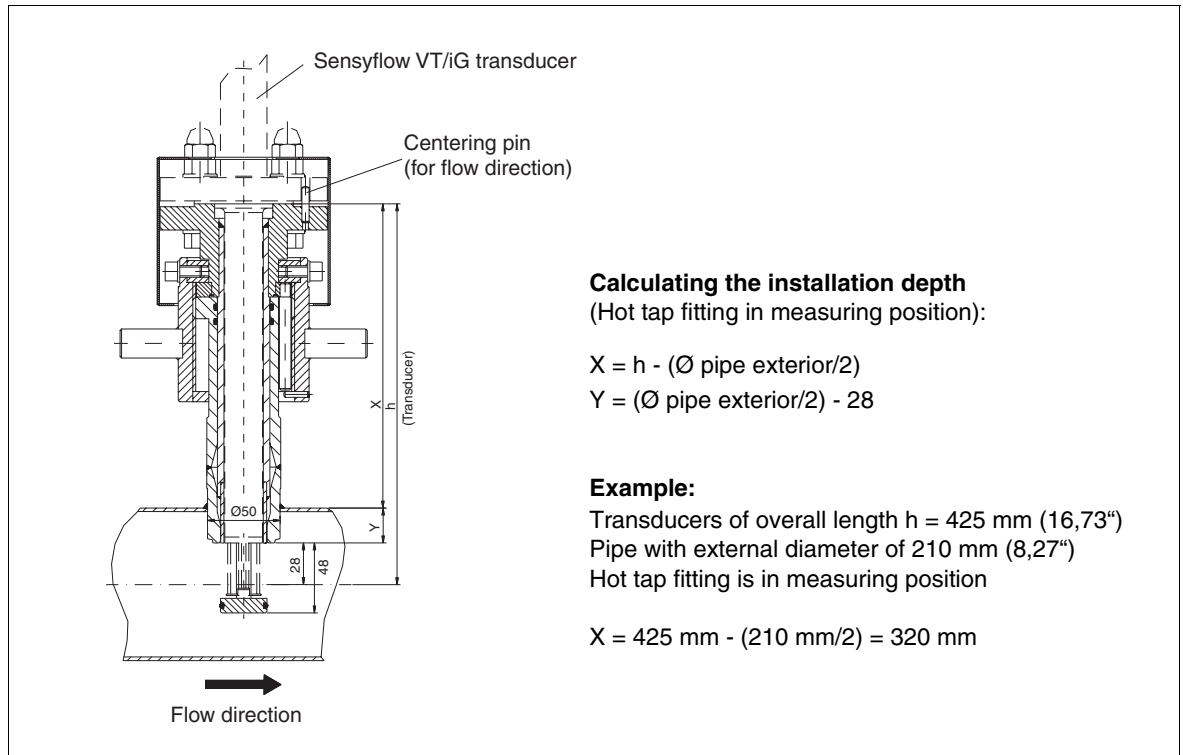

Fig. 4-7 Hot tap fitting in measuring position
- The centering pin must be aligned with the pipe axis in the flow direction (outflow side, behind the measuring site (see Fig. 4-7)).